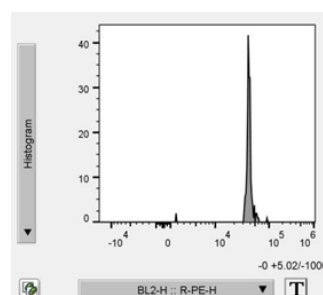

Fig 6. Set S1 Voltage
- Adjust APC and APC-Cy7 PMT voltage so that each bead set are on scale (Figure 6)